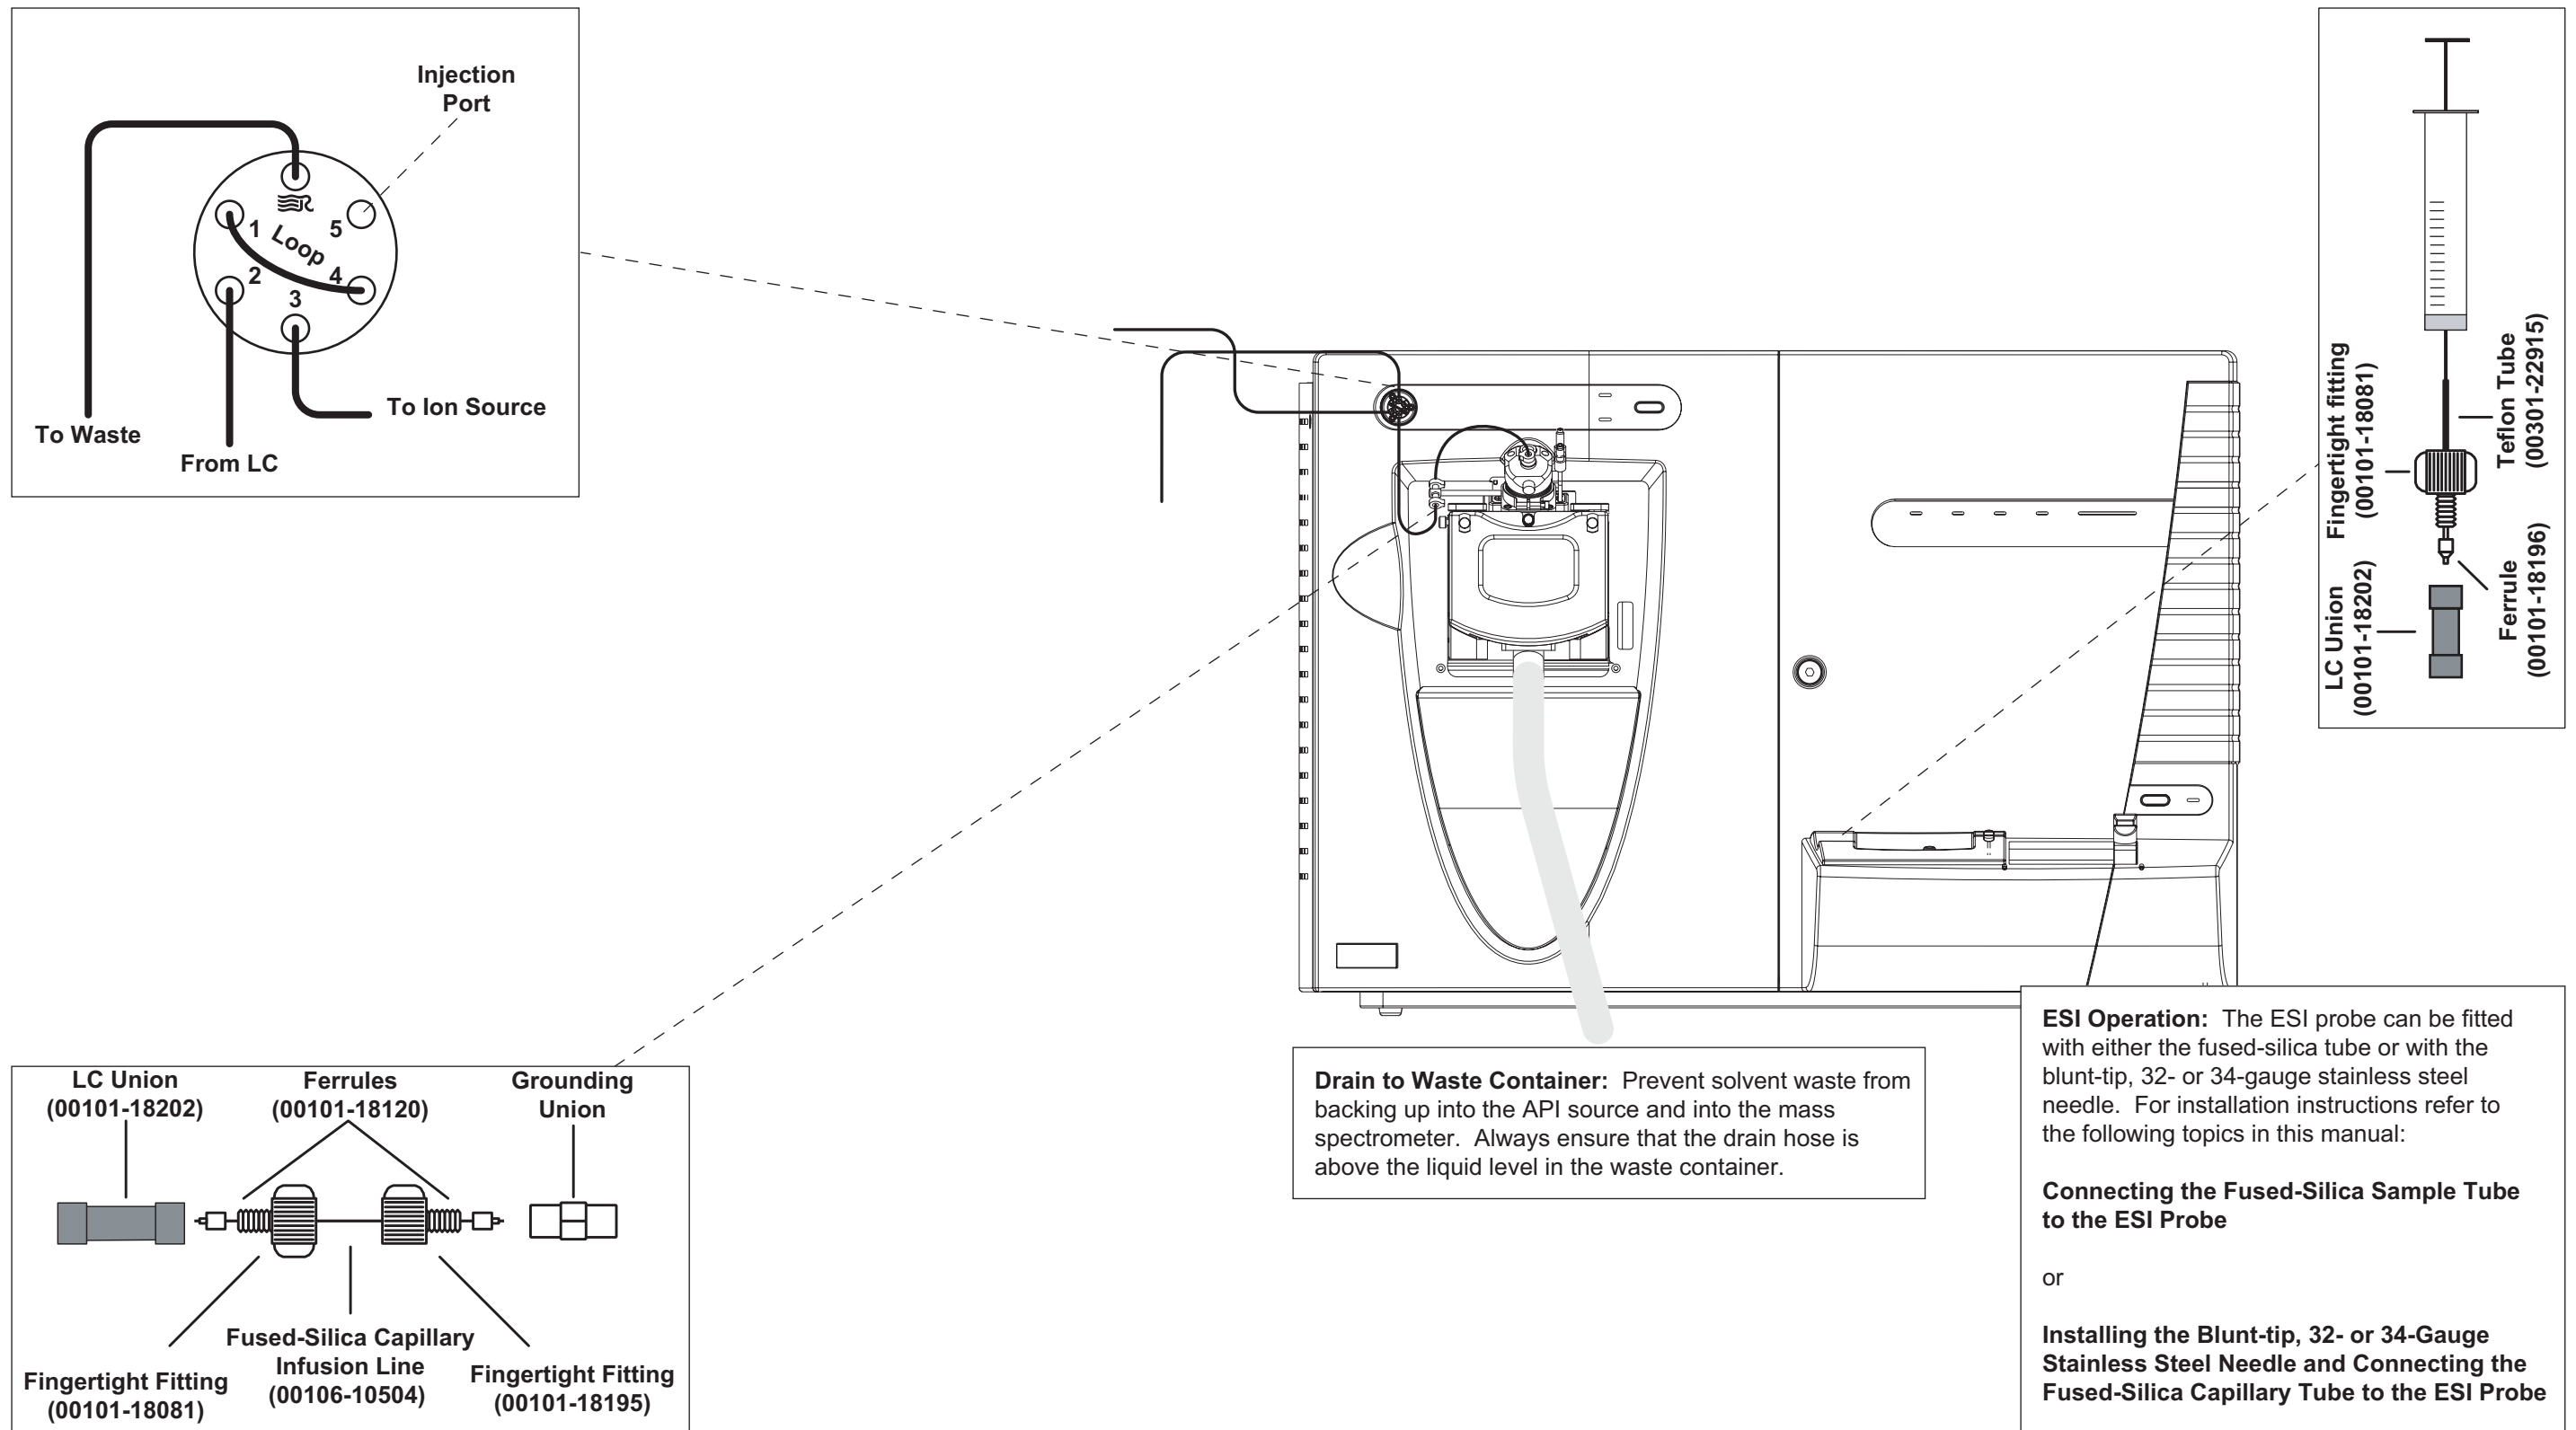

Figure 11-3. Plumbing diagram showing ESI/MS sample introduction by loop injection into the solvent flow from an LC
- Figure 11-3. Plumbing diagram showing ESI/MS sample introduction by loop injection into the solvent flow from an LC